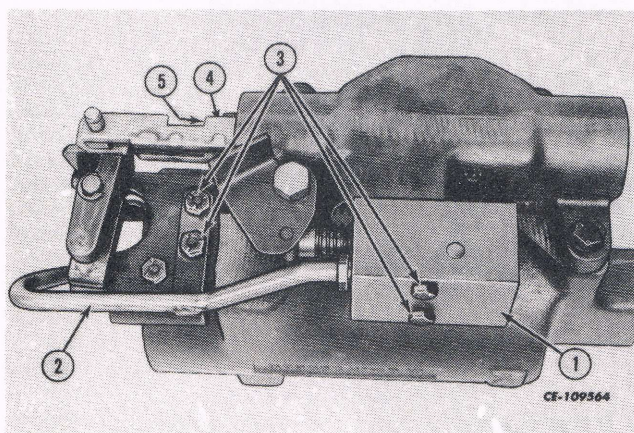

Fig. 32
1. Remove the action control valve assembly (1) from the draft control valve assembly with the cylinder lubricant tube assembly (2). See Fig. 32.